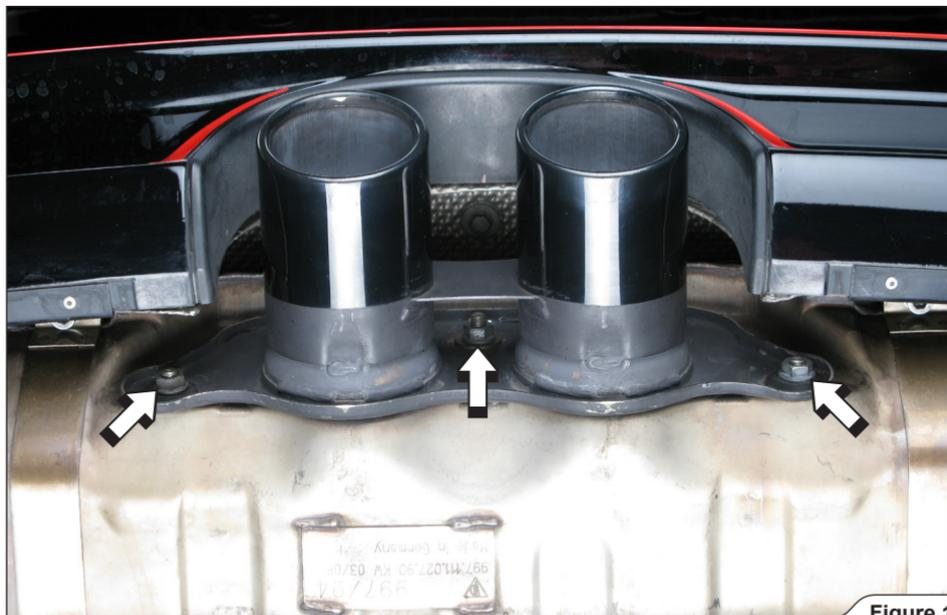

Figure 1
1. **For Tail Pipe, Slip-On, Sports Cup, Evolution, Evolution-Race and SlipOn-Race:** unscrew three M8 nuts from stock tail pipe piece and remove the tail pipe (**Figure 1**).